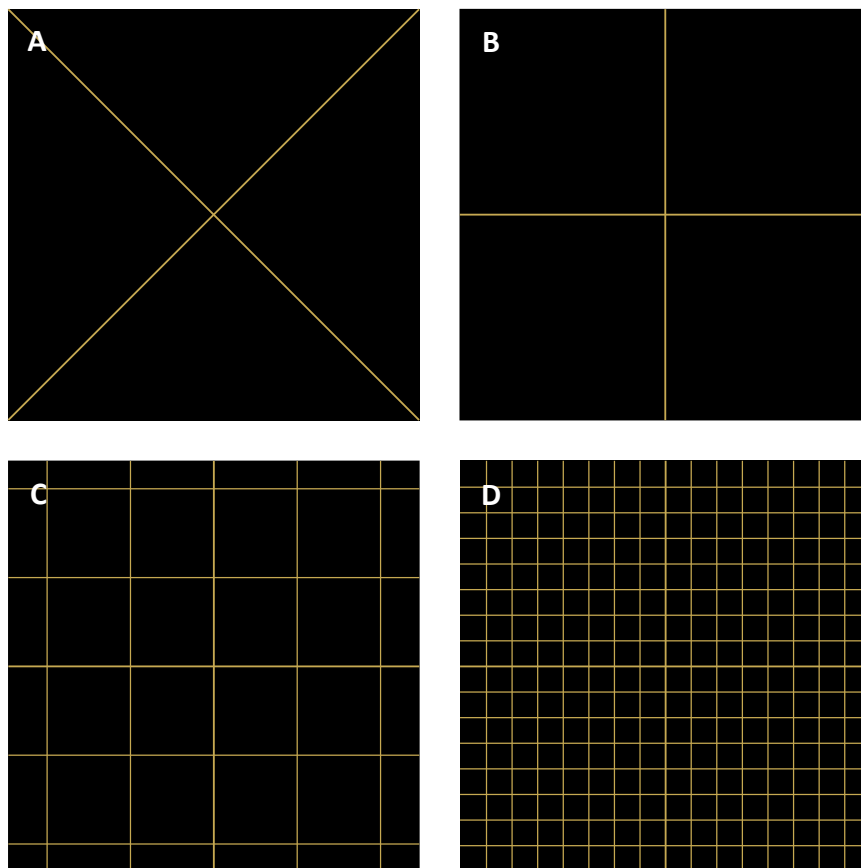

Figure 33 – Grid lines pattern
- Center Cross (x) – see Figure 33 (A)
- Center Cross (+) – see Figure 33 (B)
- Grid lines – see Figure 33 (C)
- Fine grid lines – see Figure 33 (D)